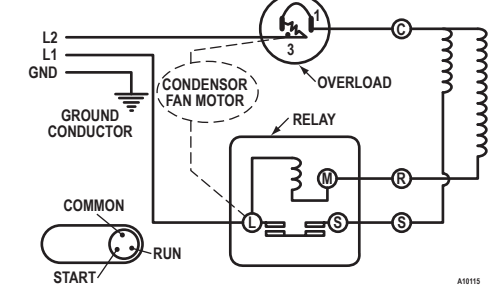

FIGURE 13. COMPRESSOR SCHEMATIC
- Bad windings (see Figure 13)
- c. Check relay. See Figure 13 shown below. Unscrew lead terminals and remove relay from compressor. Keep relay upright.
- e. Check compressor windings. See Figure 13 shown below.